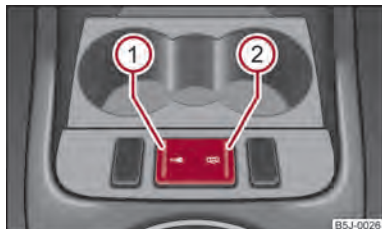

Fig. 13 Centre console: Central locking system
- Press button ① ⇒ fig. 13. The symbol  in the button comes on.
- Press button ② ⇒ fig. 13. The symbol  goes out in the button.